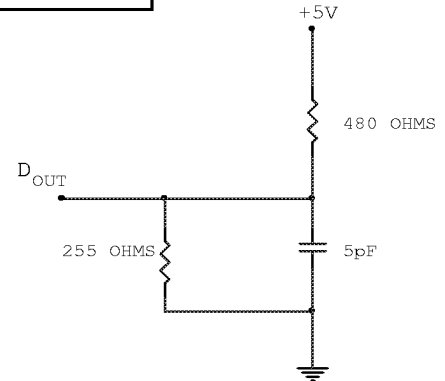

Fig. 2 Output Load Equivalent
- ‘LZCE, ‘LZWE, ‘LZOE, ‘HZCE, ‘HZOE and ‘HZWE are specified with CL = 5pF as in Fig. 2. Transition is measured ±200mV from steady state voltage.